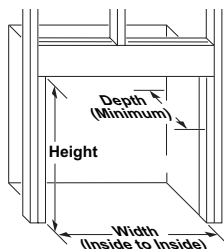

Figure 8 - Rough Opening for Installing in Wall
1. Frame in rough opening. The firebox framing should be constructed of 2 x 4 lumber or heavier. Use dimensions in Table 1 and rough opening layout in Figure 8. Adjust framing so that firebox flushes with finished wall surface. If installing in a corner, use dimensions in Figures 8 and 9 for rough opening.